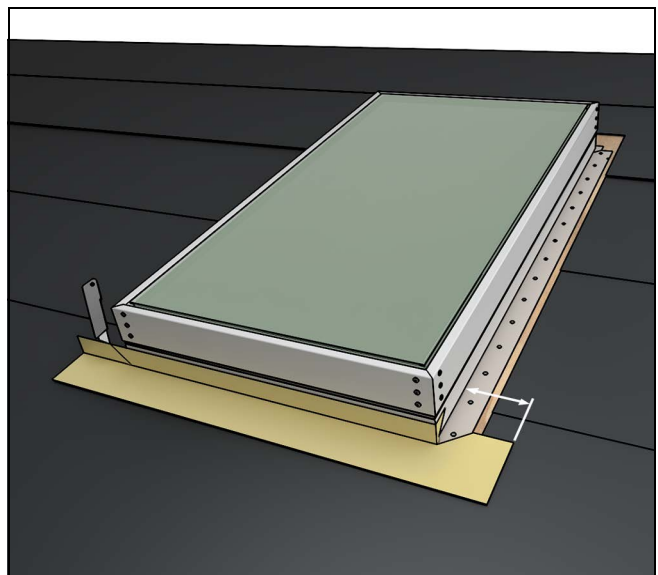

Figure 12
10. To ensure waterproofing, unit frames should be completely wrapped in supplied adhesive flexible flashing. This adhesive flexible flashing must be applied before installing the rigid flashing. Wrap sill with adhesive flexible flashing and create water-shedding laps over roofing underlayment. Flexible flashing must extend at least 6" from the edge of the frame. *Note: Flexible flashing cannot interfere with kerf.* See Figure 12.